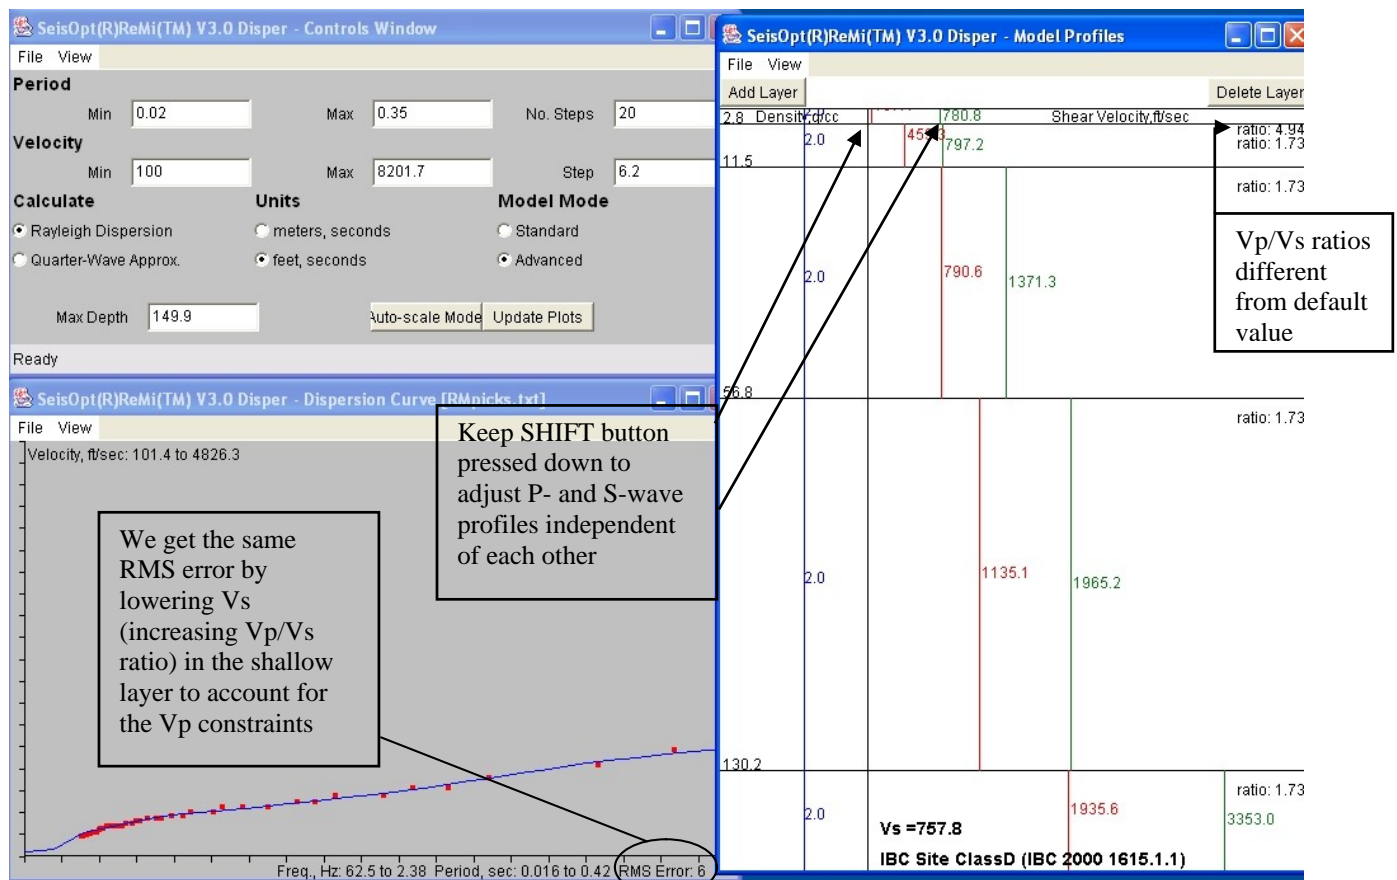

Figure 57: The shear-wave velocities need to adjusted to fit the picks based on the P-wave velocity information.
- One may also have to add more layers to account for the variations. Figure 57 shows a modified shear-wave profile, assuming P-wave velocities. Note that this is just for demo purposes – V_p/V_s ratios may not be as high as shown.